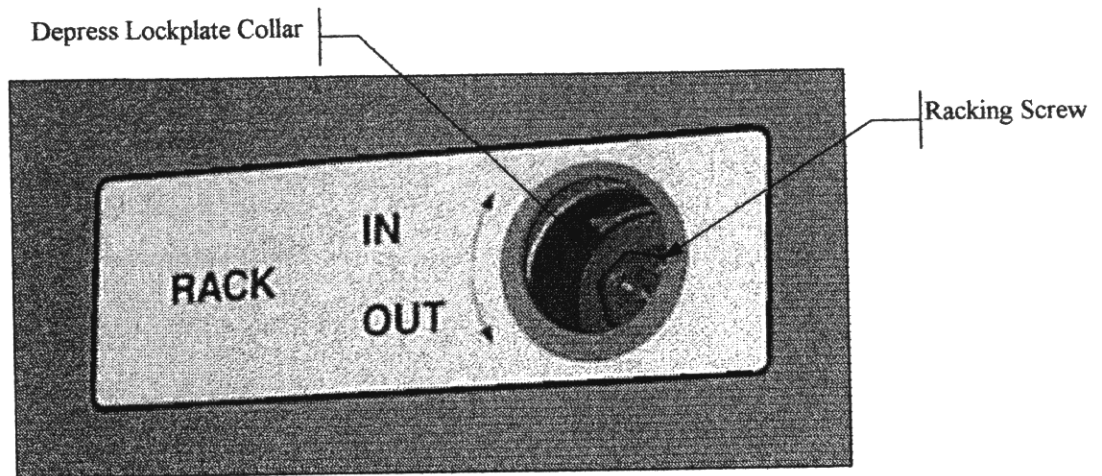

Figure 24. Auxiliary module racking screw and collar.
- Step 1.** Engage the Racking tool with the Racking Screw (Figure 24).
- Step 2.** Depress the Lock Plate Collar (Figure 24) with the racking tool.
- Step 3.** Rack the auxiliary unit into the Connected position by turning the Racking tool clockwise (CW) while maintaining pressure on the lockplate collar.